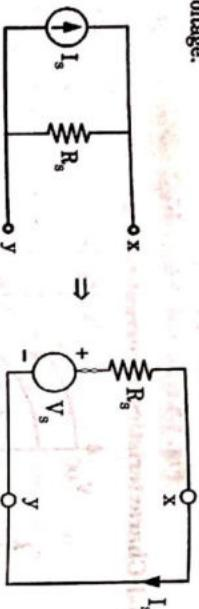

Fig. 1.4.2.
- Let us consider a practical current source  $I_s$  with a source or internal resistance  $R_s$  as shown in Fig. 1.4.2.